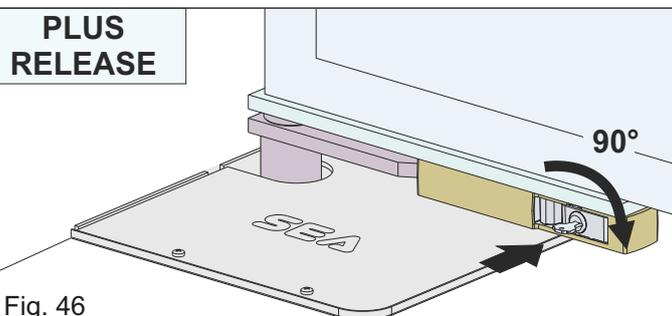

Fig. 46
- insert the supplied key into the lock and turn it 90° clockwise (Fig. 46)